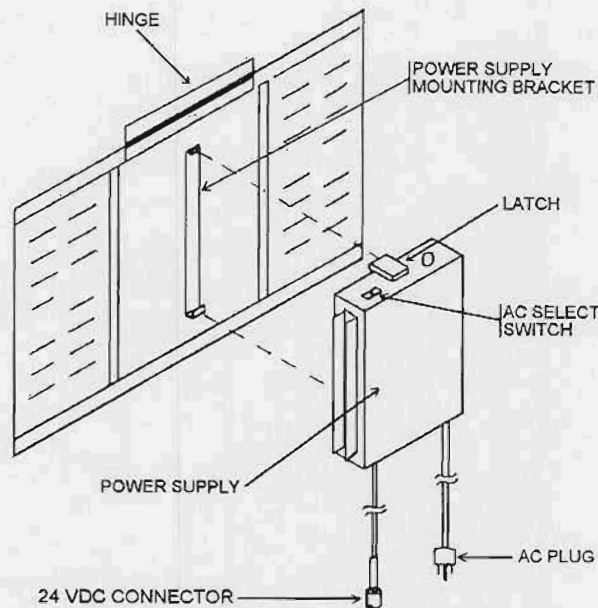

Figure 1-5. Power supply.
(2) *Power supply* (fig 1-5). Alternating current (AC) voltages are provided by the power supply.